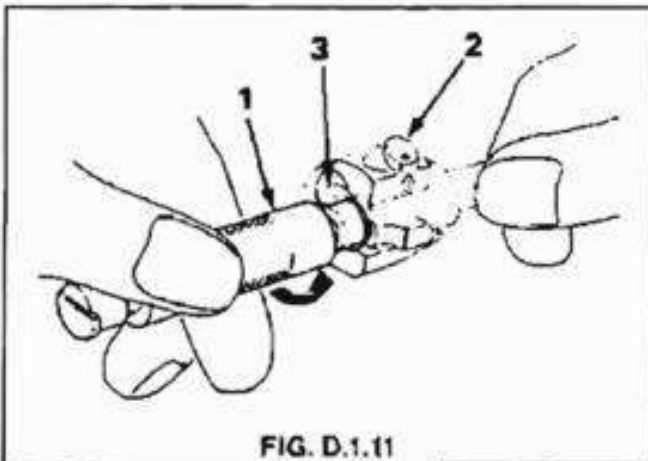

FIG. D.1.11
12. Position the Accept gauge end 1.545 mm of the plug gauge squarely onto the bolt face and rotate the gauge between the bolt face and the underside face of the extractor lip. If the gauge cannot be rotated the reason must be investigated and the cause rectified. See Fig. D.1.11